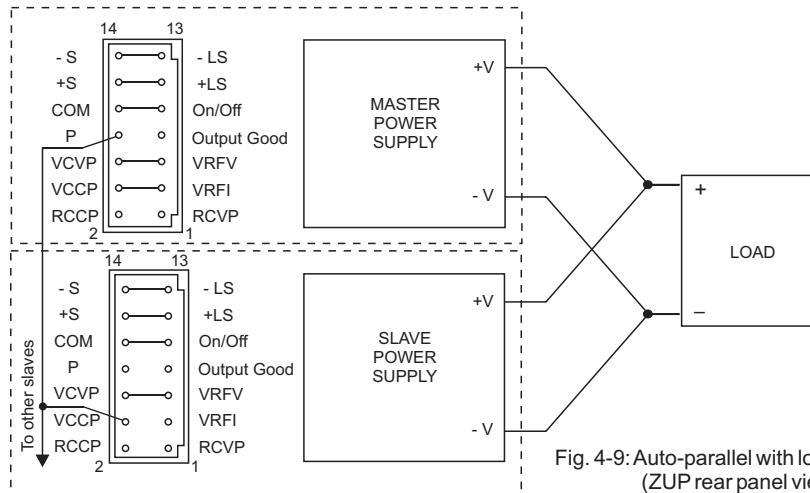

Fig. 4-9: Auto-parallel with local sensing (ZUP rear panel view)
6. Connection to the Load: At auto-parallel mode, power supplies can be connected in local or remote sensing. Refer Fig. 4-9, 4-10 & 4-11 for typical connections of paralleled power supplies. The figure below shows connection of two units, however the same connection method applies for up to 5 units.